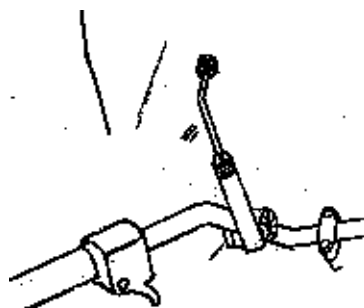

Figure 2.
5. **Loosely** thread locking nuts onto telescope brackets. Slide the appropriate left and right telescope bracket onto the upright. Figure 2.